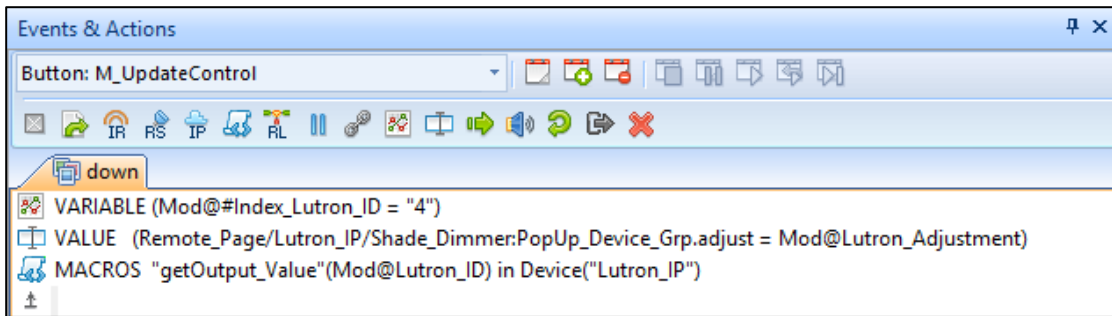

Figure 44 - M\_UpdateControl Events and Actions, “down” state
- d. For the newly created button, “M\_UpdateControl”, create a “down” event and add these three actions in this order: Variable Change, GUI Action, and Bi-Directional Macro Action (Figure 44).